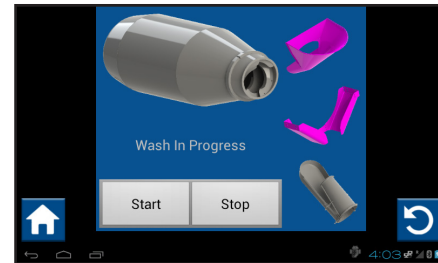

Figure 97
4. Select up to two different components of the Mixer to wash at a time (Figure 97). (Only two components can be washed at the same time.)